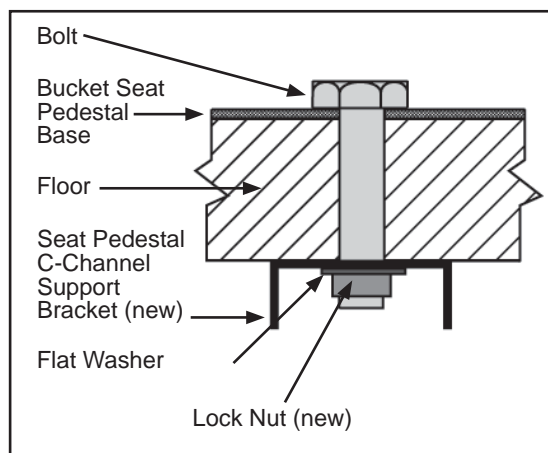

Figure 3
8. Install the new seat pedestal C-channel support brackets (2 per seat) over the existing bolts as shown in Figure 1. Secure each with a flat washer and lock nut, following the stacking order shown in Figure 3. Torque nuts to 30 ft.-lbs.